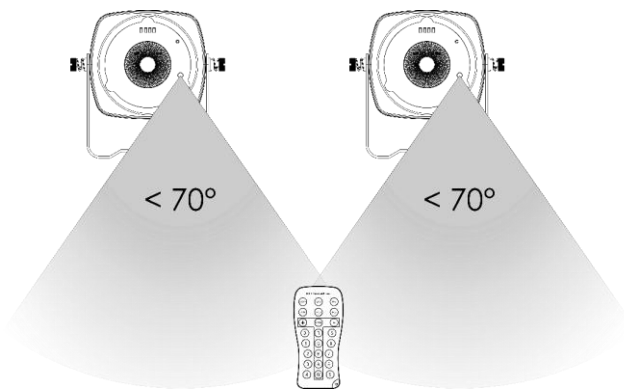

Fig. 19
You can control several devices at the same time with the remote control. Make sure that you point the remote control to the **infrared port (07)** of the device or group of devices that you want to control, as shown in Fig. 19. If you point the remote control to the **infrared port (07)** of the device outside of the range of the sensor ($> 70^\circ$), the device will not respond to the remote control.